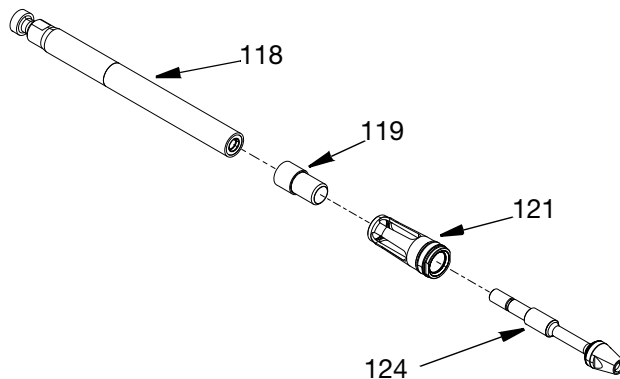

FIG. 23
4. Place the flats of the upper displacement rod (118) into a bench vice. Clean any residual thread locker from the threads of the outlet check valve seat (124) and reapply a bead of thread locker to the threads. Place the pump rod spacer (119) into the outlet check assembly (120,121,122, and 123). Insert the
upper check valve seat through the outlet check assembly and thread into the upper displacement rod (118). Torque to 50 Ft-lb (67.79 N•m). See FIG. 23.